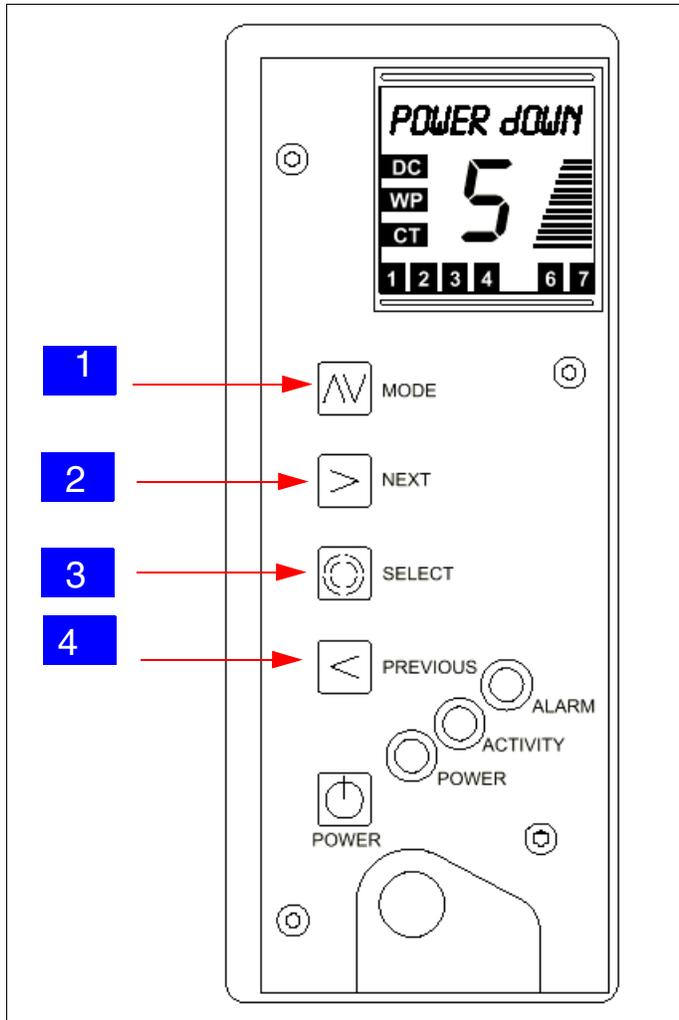

Figure 12-5 IBM 3581 Operator Panel
The control buttons are push buttons on the Operator Panel that let you interact with the menus on the message display (Figure 12-5 on page 330):
| MODE | Scrolls through the commands that you can use to operate the IBM 3581 (label 1 in Figure 12-5 on page 330). |
- NEXT** Highlights the next item or value in the currently displayed menu (label 2 in Figure 12-5 on page 330)
- SELECT** Selects the currently displayed operation (label 3 in Figure 12-5 on page 330).
- PREVIOUS** Highlights the previous item or value in the currently displayed menu (label 4 in Figure 12-5 on page 330).